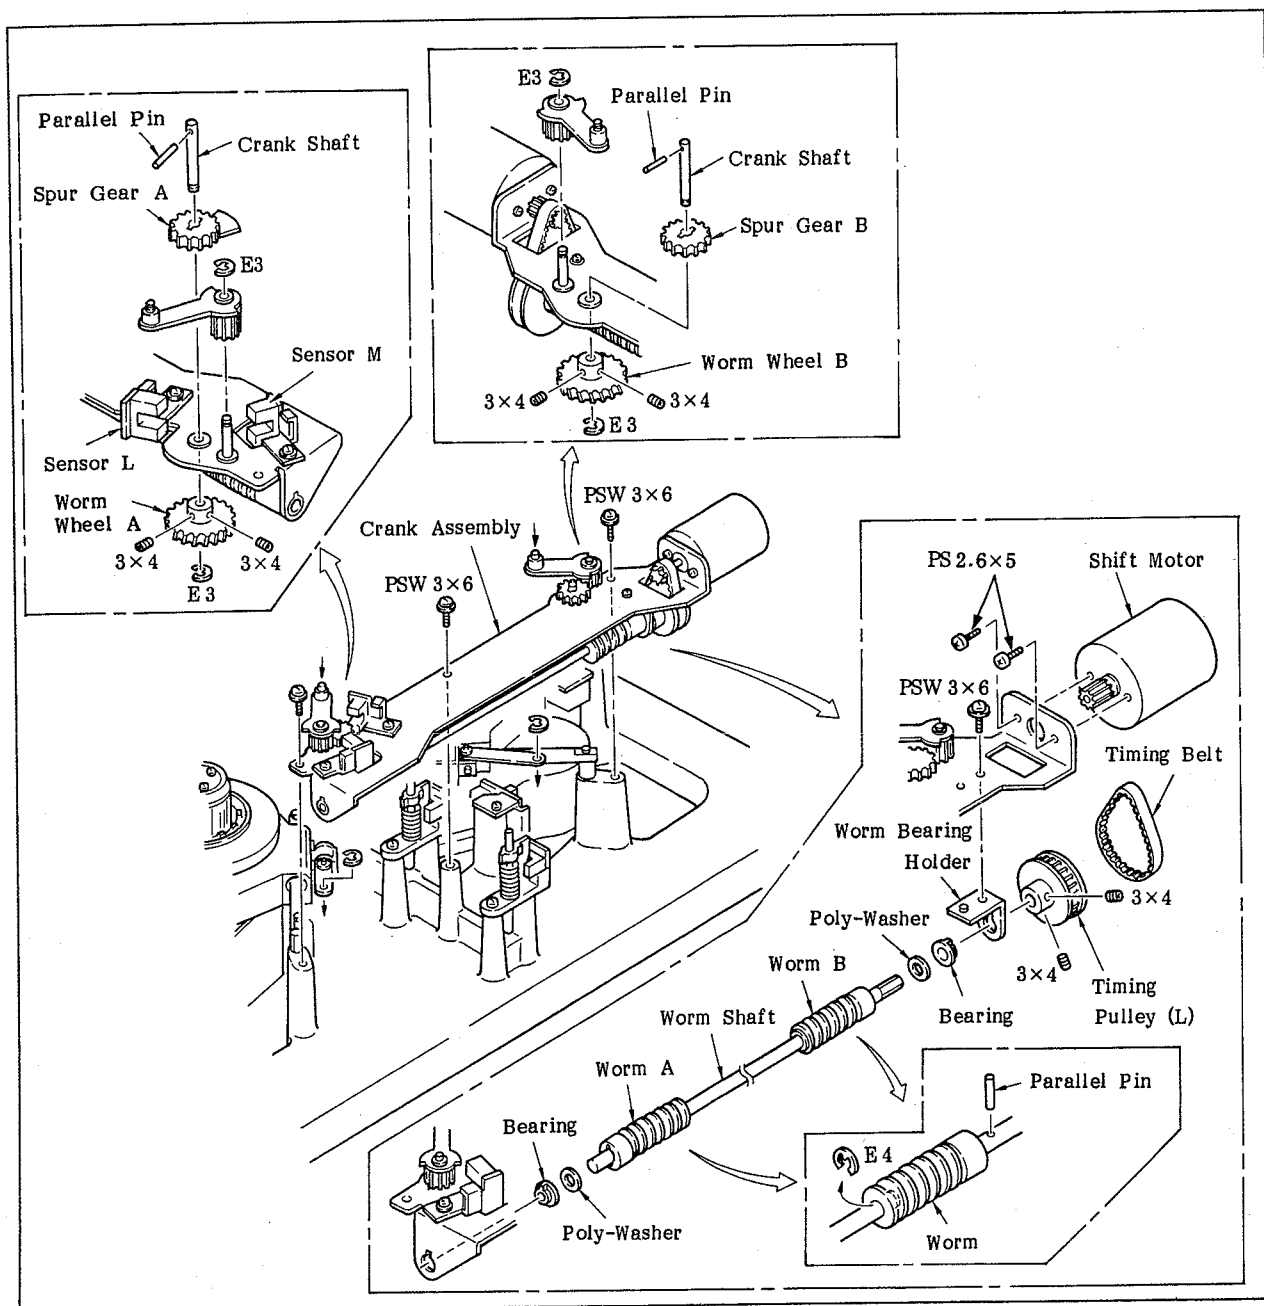
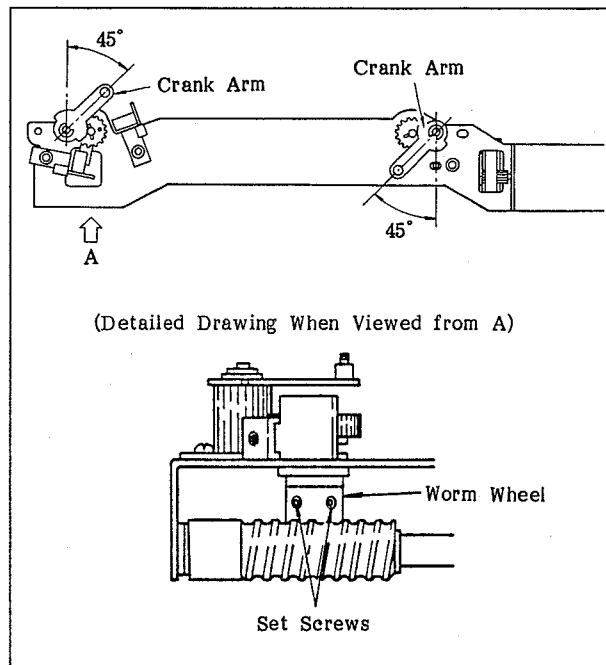

Fig. 6-36 Replacing the Reel Motor Shift Components)
Fig. 6-44 Replacing the Worm
- A. Refer to Figure 6-36 concerning the replacement of the reel motor shift components. They can be easily replaced. This section will describe the procedures for making the adjustments after replacement.
(Refer to Figure 6-36.)
2. Remove the crank assembly by referring to Figure 6-36.
6. Mount the crank assembly on the machine by referring to Figure 6-36.
3. Remove the timing belt, shift motor, and timing pulley (L) in that order.
5. Turn the S-side and T-side crank arms into the directions shown in Figure 6-44. Then, assembly the worm, worm shaft, worm bearing holder, and poly-washer bearing.
6. Insert the timing pulley (L) so that the D cut surfaces of the worm shaft match the two tap holes of the timing pulley. Then, insert a 0.5 mm thickness gauge between the bearing and timing pulley (L) and fasten the timing pulley by securing with two set screws while pushing the timing pulley (L) into the bearing.